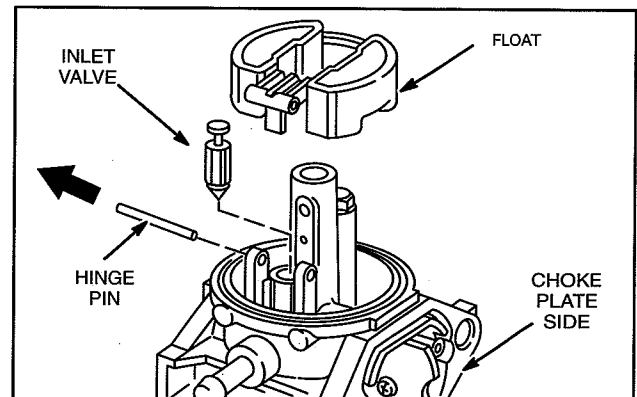

Fig. 6 – Removing Float
2. Drive out float hinge pin from choke plate side of carburetor with a small punch. Remove float and fuel inlet valve, Fig. 6.